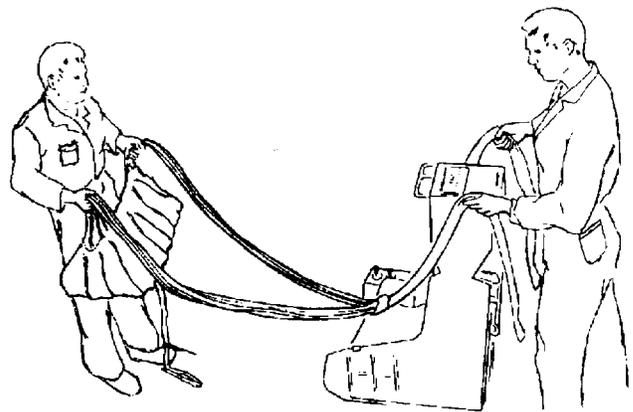

Figure 2. Helper Shall Grasp Each Group
a. Helper shall grasp each group of suspension lines at skirt hem and lift drogue canopy, off packing table. Packer shall grasp each group of risers, long risers on top of short risers, and position them over back of ejection seat. Helper shall position drogue canopy in front of seat (Figure 2).